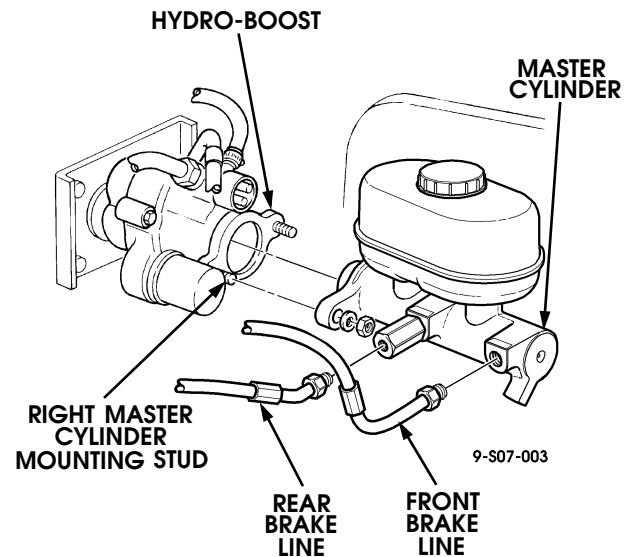

Figure 7-8: Master Cylinder
1. Disconnect front and rear brake lines from master cylinder (Figure 7-8).
2. Remove two locknuts and master cylinder from hydro-boost. Discard locknuts (Figure 7-8).
2. Install master cylinder to hydro-boost with two locknuts. Tighten locknuts to 22 lb-ft (30 N•m) (Figure 7-8).